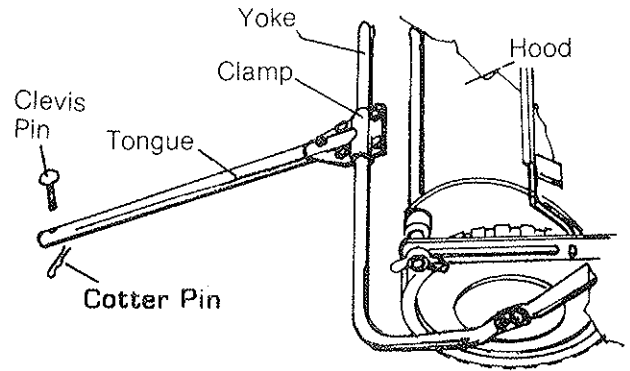

Figure 6
- Fig. 6 - Place the 2 Clamps around the Yoke and fasten together loosely with (4)  $\frac{1}{4}$ -20 x  $\frac{5}{8}$  Hex Bolts and (4) Hex Lock Nuts. Now insert the Tongue between the (2) Clamps and use the  $\frac{1}{4}$ -20 x  $1\frac{1}{2}$  Bolt and Lock Nut to fasten to the (2) Clamps. Be sure the dimple in the Clamp is over the dimple in the Yoke, then tighten all Lock Nuts. Place the Clevis Pin thru the Tongue then insert the Cotter Pin in the Clevis Pin.